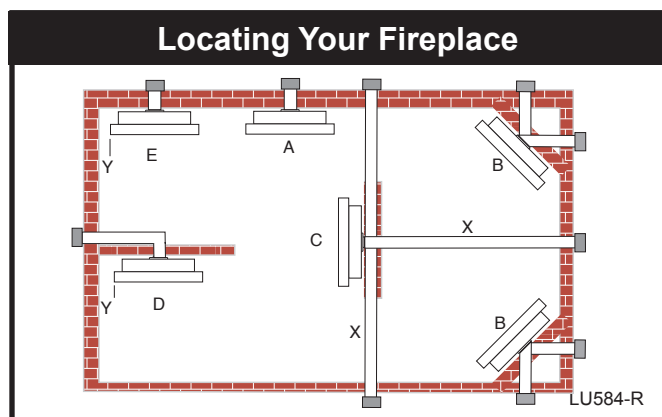

Fig. 4 Locate gas fireplace.
NOTE: (Fig. 4)
** Island (C) and Room Divider (D) installation is possible as long as the horizontal portion of the vent system (X) does not exceed 20' (610 cm). See details in Venting Section.
* When you install your fireplace in (D) Room divider or (E) Flat on wall corner positions (Y), a minimum of 6" (153 mm) clearance must be maintained from the perpendicular wall and the front side edge of the fireplace trim.
Refer to (Y) in Figure 4.